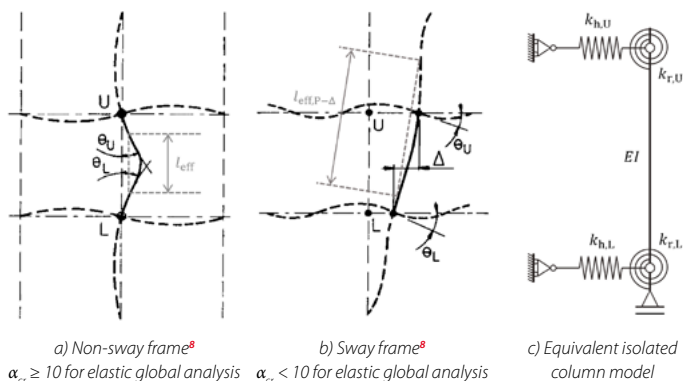

Figure 2: Effective length concept in sway and non-sway frames
►24 In **Method 3**, the designer must determine an appropriate effective length that allows for the consideration of $P-\Delta$ effects while performing member checks according to section 6.3 of EN 1993-1-1. As the **design** is based on first order internal forces, the complexity of the analysis is removed, but the **effective length** needs to be specified for each column. The concept of effective length was introduced in Part 1 of the current article for isolated struts, where the horizontal or rotational restraints of the strut ends were assumed as infinitely rigid. This does not represent reality: (i) rotational stiffness of the nodes is related to the flexural stiffness of the elements that are connected to the nodes, resulting in a rotational spring on each node – $k_{r,i}$ (Figure 2); (ii) if a structure is susceptible to second order global effects, the complexity is increased, as the structure is horizontally flexible (assessed by the value of α_{cr}), resulting in horizontal springs on each node – $k_{h,i}$ (Figure 2).